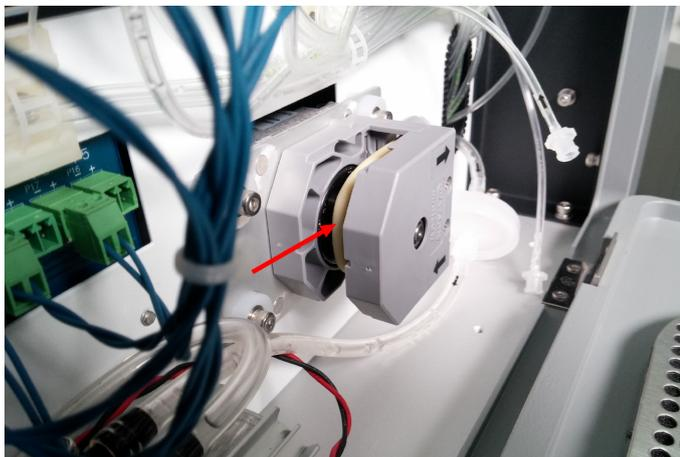

Figure 4-15 Place New Peristaltic Pump Tubing onto the Pump Head
- 7 Replace with new peristaltic pump tubing by sliding the Luer lock fittings onto the pump head (Figure 4-15);